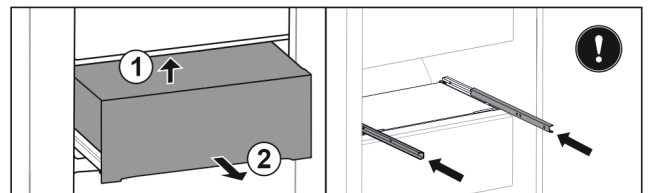

Fig. 30
- ▶ Lift up at the back from below Fig. 30 (1).
- ▶ Remove to the front Fig. 30 (2).